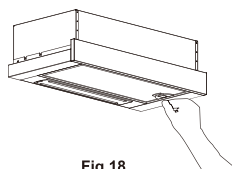

Fig.18
1. Pull down the latch of filter.(Fig.18)